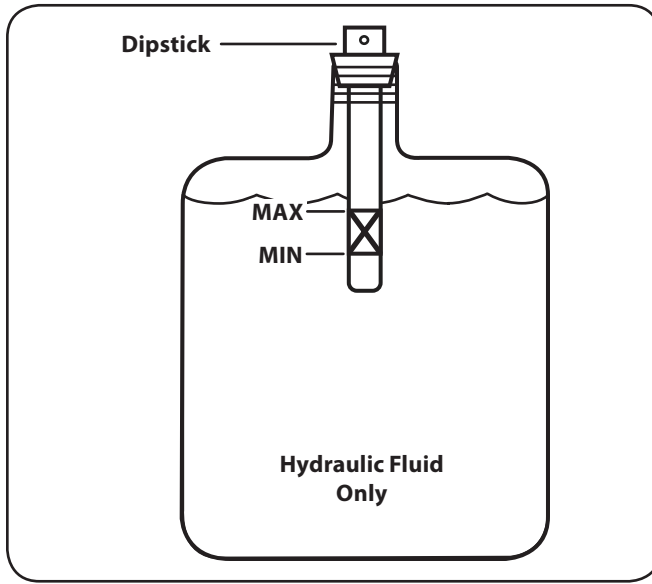

Figure 6-2
11. Refill the reservoir within range marked on the dipstick. See Fig. 6-2.